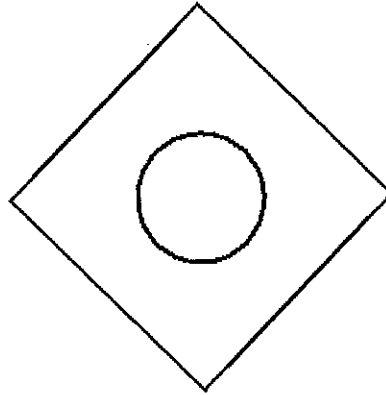

Figure 13-36 The polygon inserted in the drawing
7. Enter **6,30** at the Command prompt and press ENTER; the polygon is inserted in the drawing, as shown in Figure 13-36.